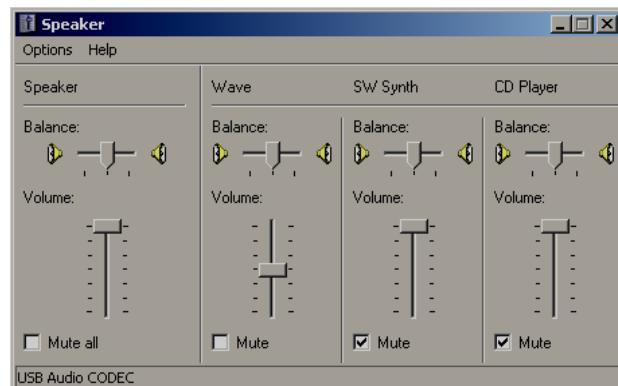

Figure 3 *Volume Control Panel*
- The Volume Control panel will now open again and display the SignalLink's software volume controls. *USB Audio Codec* should be displayed at the bottom of the window. Set the *Speaker* control (far left control) to 100% max volume, and then set the *Wave* control to 50%. Note that the Speaker and Wave controls must **NOT** be muted or you'll be unable to transmit. The other two volume controls (SW Synth and CD Player) can be muted if you'd like. Your volume control panel should now look like the one shown below in Figure 3.